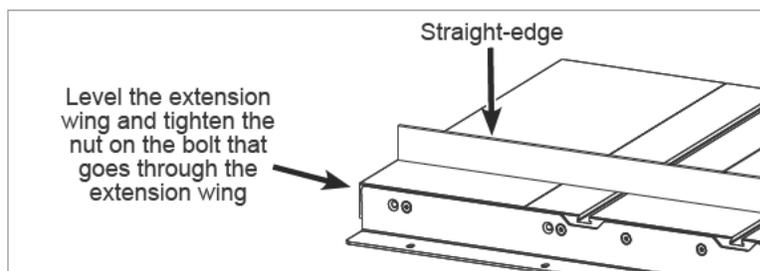

Fig. 14
6. Use a straight-edge to level the front edge of the left extension wing to the cast iron table top (See Fig. 14). You may have to pull up or push down on the outer edge of the extension wing to level it. Once the front edge of the left extension wing is level, use a 5 mm hex key and a 13 mm wrench to fully tighten the nut on the bolt that mounts the left extension wing to the front rail. Repeat this process to level the front edge of the right extension wing and the rear edges of the left and right extension wings.